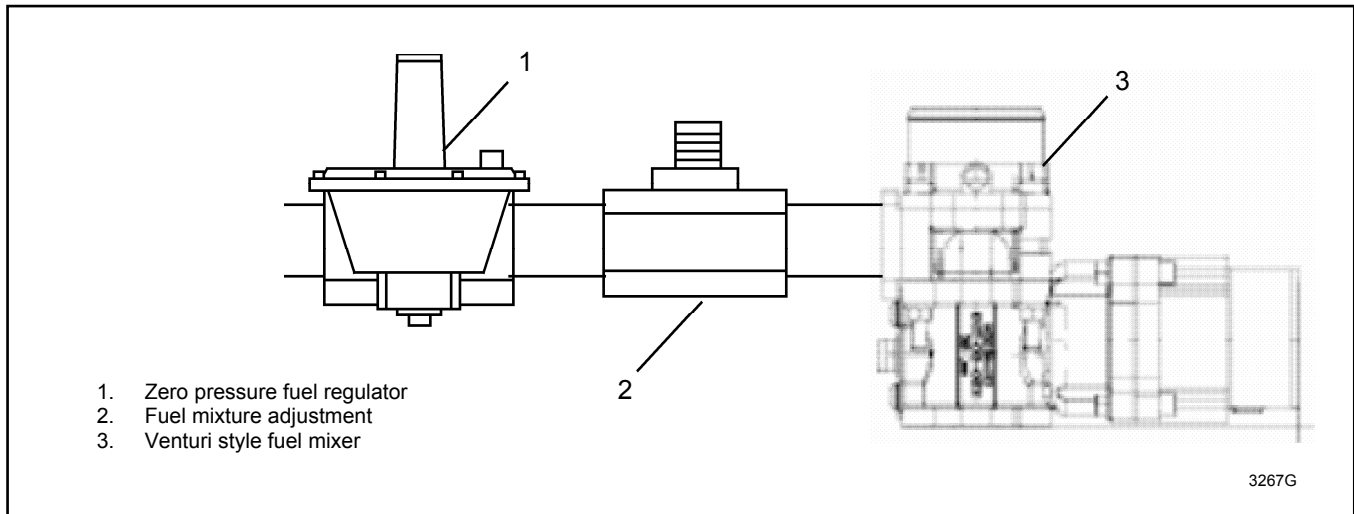
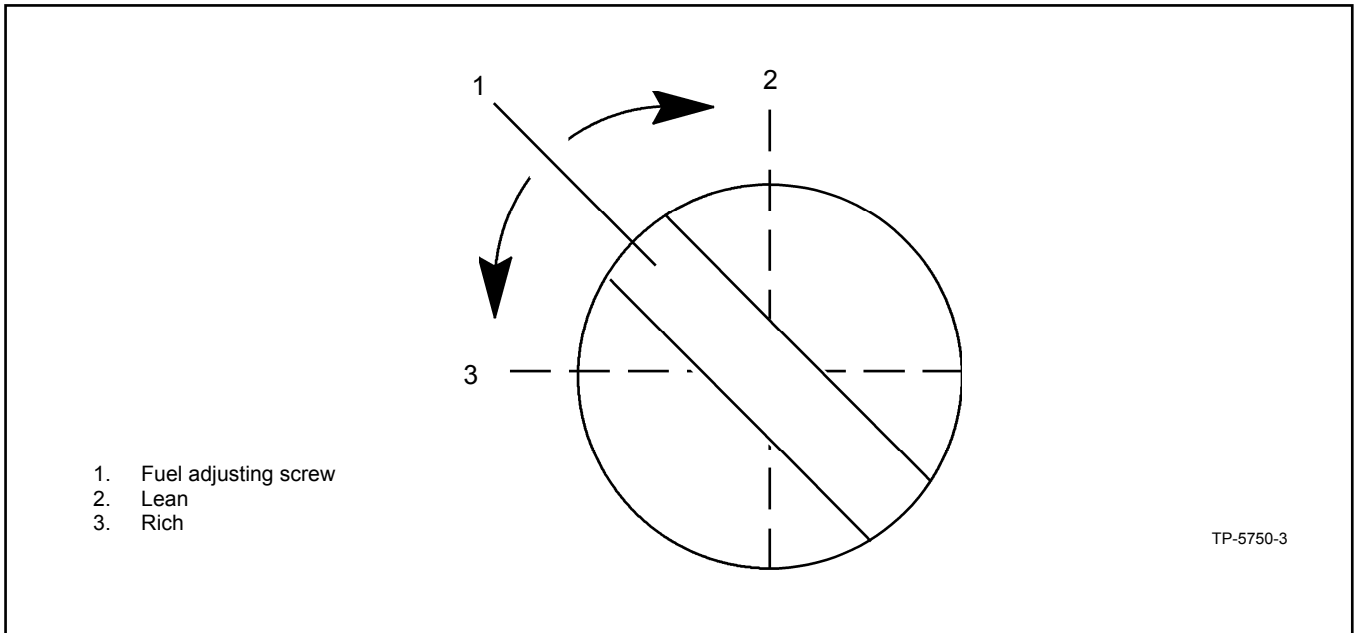
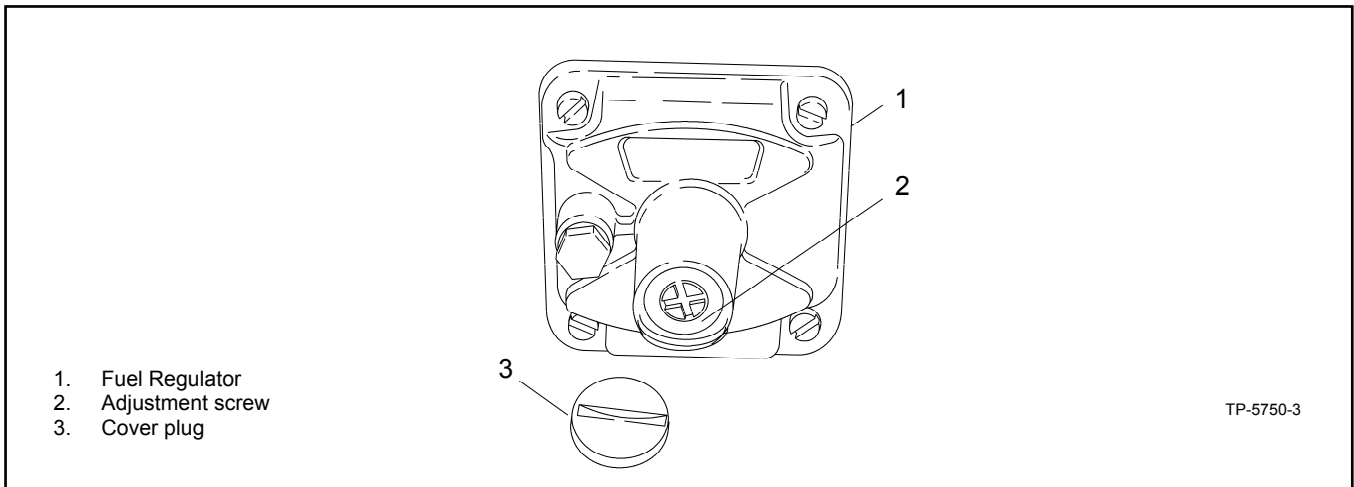

Figure 8 30-60 kW with Venturi Style Fuel Mixer
Figure 9 Fuel Mixture Adjustment, Typical
Figure 10 Fuel Regulator, Typical
Venturi style fuel mixer used with an integrated throttle body governor on 4.3 L, 5.0 L, and 5.7 L GM engines. Also similar to the IMPCO model 100 used on the 30 kW with 3.0 L GM engine. See Figure 8.
10. Repeat steps 7–9 until fuel setting are between phi (1.00-1.071) or lambda (1.00-.933). See Figure 8 and Figure 9 to obtain a full-load oxygen sensor reading in the range specified in Figure 2. Adjust the zero pressure regulator (see Figure 8 and Figure 10) to obtain a no-load oxygen sensor reading in the range specified in Figure 2.
1. Adjust the fuel regulator adjustment screw to the approximate midpoint of its adjustment range. See Figure 10.
2. Adjust the fuel regulator adjustment screw to the approximate midpoint of its adjustment range. See Figure 10.